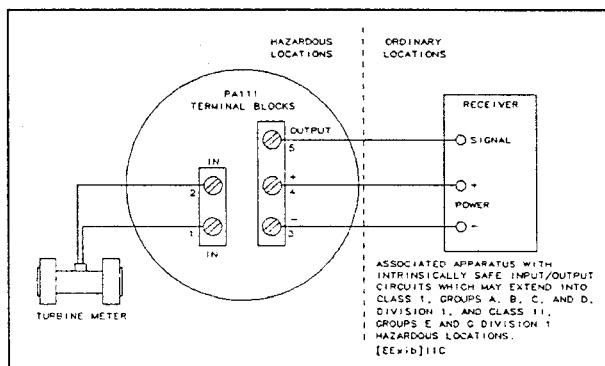

Figure 4. Wiring, turbine meter mounting.
The PA111 uses a three wire system. These three wires are the power and signal interconnection between the amplifier and receiver. There are a total of five wires which are connected to the amplifier, two from the turbine meter pickup coil and three from the receiver. Wiring connections to the amplifier are made to a terminal block, no lugs are required. Access to the terminal block is by removing the threaded round cover, item 1. See Figure 4 and Figure 8.